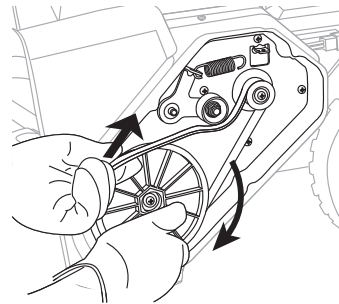

Fig. 4
5. Replace a new belt. Rotate the new drive belt first around the motor pulley, then around the auger pulley. Slowly turn the auger pulley clockwise to drive the belt inwards (Fig. 4).